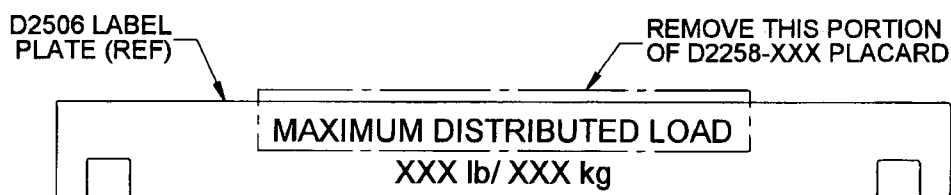

FIGURE 1: PARTIAL REMOVAL OF D2258-XXX PLACARD
1. Remove letters as indicated in Figure 1 below by lifting the edge and carefully peeling each letters at an angle of 90 to 180 degrees. Speed and angle of removal may affect amount of residue and the amount of paint removed.